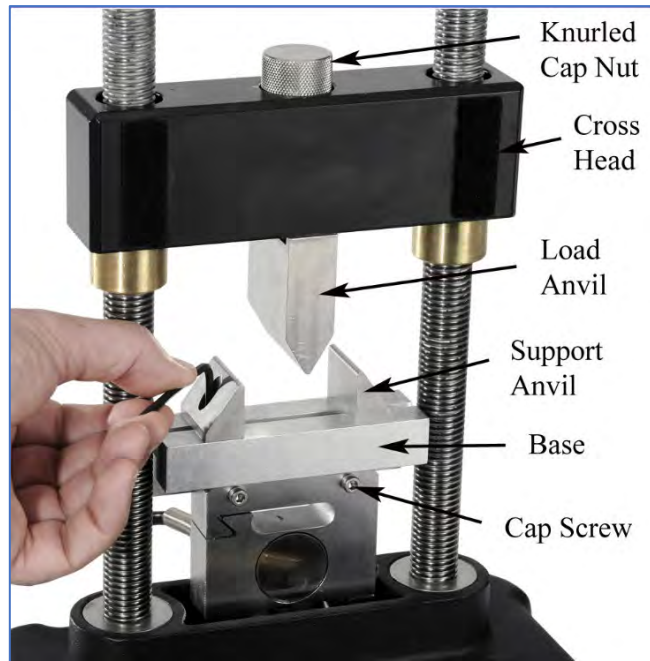

Figure 3: Changing Anvil Spacing
1. The load anvil sticks up through the cross-head and is held in place by the knurled cap nut, as shown in Figure 3.